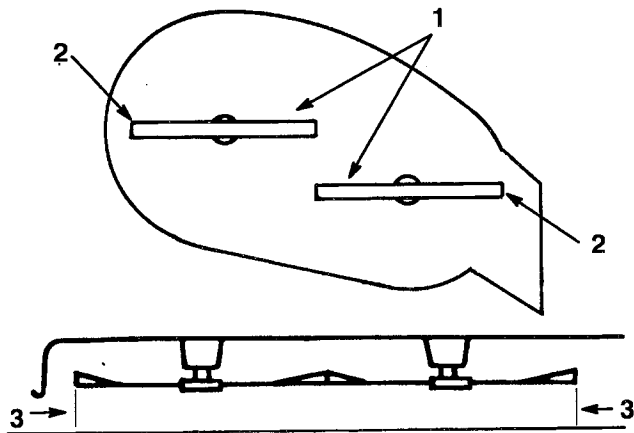

Figure 49
4. Carefully rotate blade(s) side to side (Fig. 49). Measure between the outside cutting edges and the flat surface (Fig. 49). If both measurements are not within 3/16" (4.7 mm), an adjustment is required; refer to steps 5 and 6.